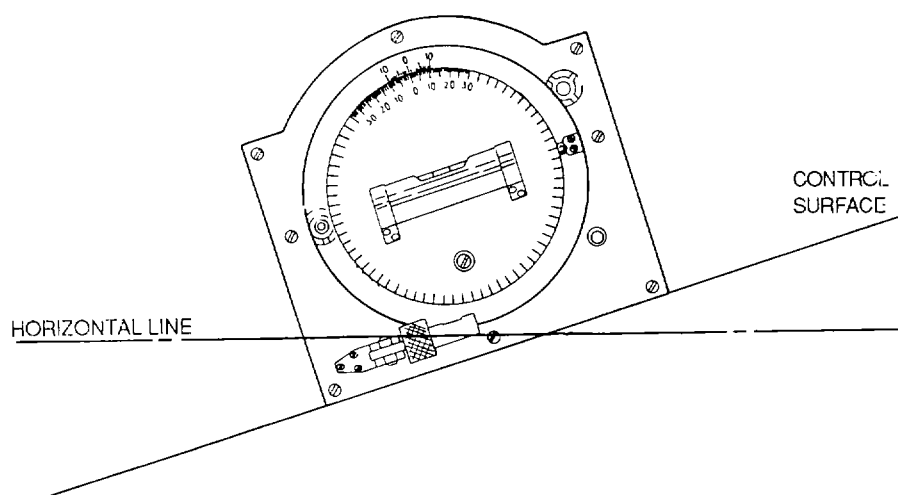
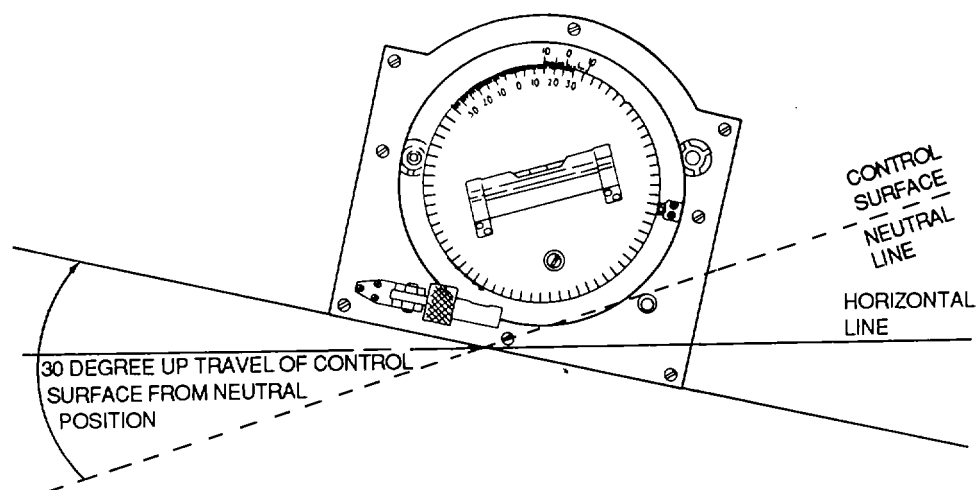

Figure 7-2. Setting Protractor with Flight Control Surface in Neutral Position
Figure 7-3. Measuring Control Surface Angle at Full Throw
(1) Align the control surface in the neutral position.
(2) Lock the ring to the disk at zero by dropping the lockpin in the deepest slot.
(3) Place the protractor in the approximate middle of the control surface next to a rib.
(4) Using the ring adjusting screw, turn the ring to center the bubble in the level, as shown in figure 7-2.
(5) Lock the ring to the frame with the ring-to-frame lock.
(6) Move the control surface to an extreme limit of movement.
(7) Unlock the disk from the ring with the disk-to-ring lock.
(8) Turn the disk adjusting screw until the bubble is centered in the level, as shown in figure 7-3.
(9) Read the control surface throw in degrees.